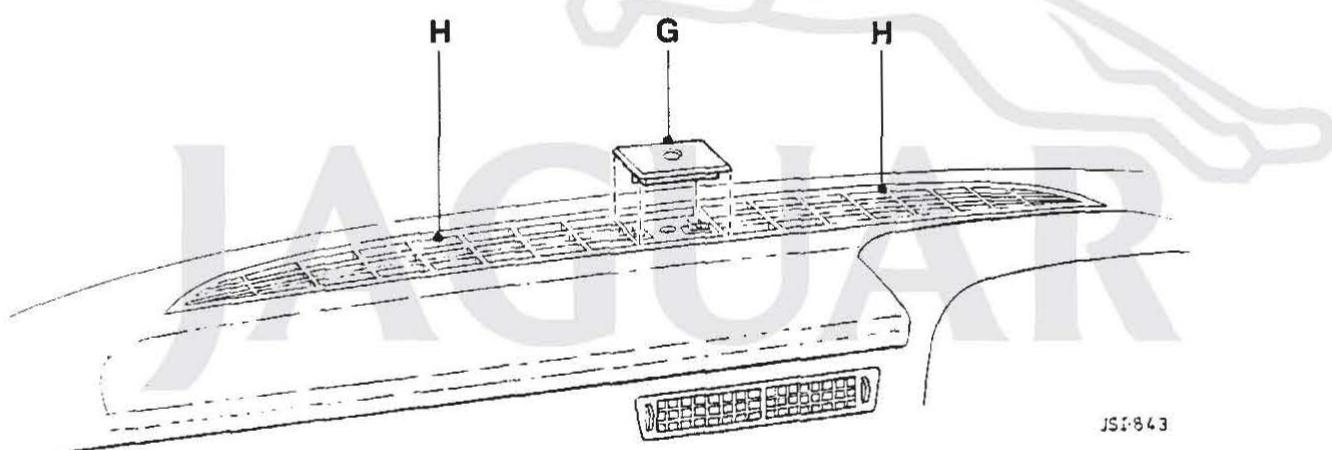

FIG 6
2. Remove the fascia solar sensor assembly (Fig 6 G), remove the right-hand and left-hand side screen vent grills (Fig 6 H).